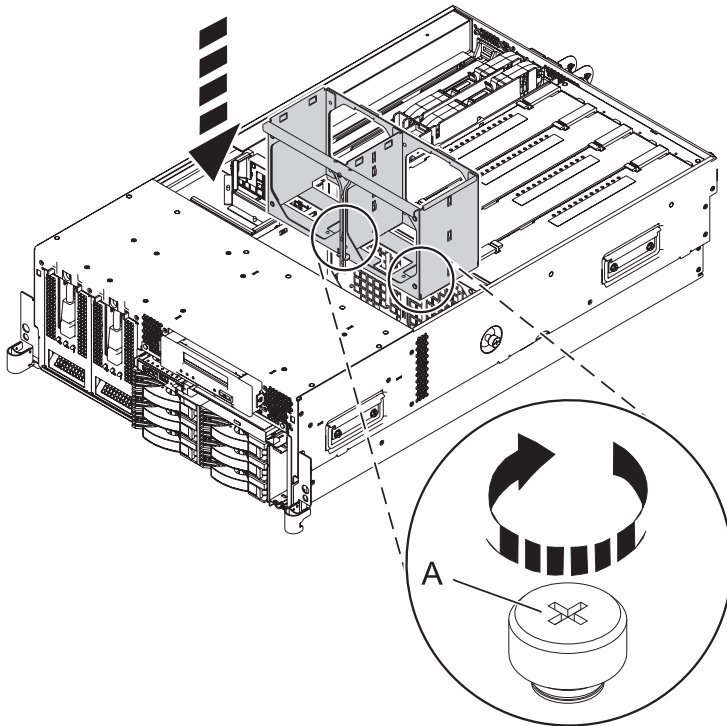

Figure 30. Installing the fan cage in the 8204-E8A or 9409-M50 system
- 1) To Install the fan cage (A) into the system, align the locator pins (A) through the holes, and tighten the two thumbscrews (B), as shown in Figure 30.